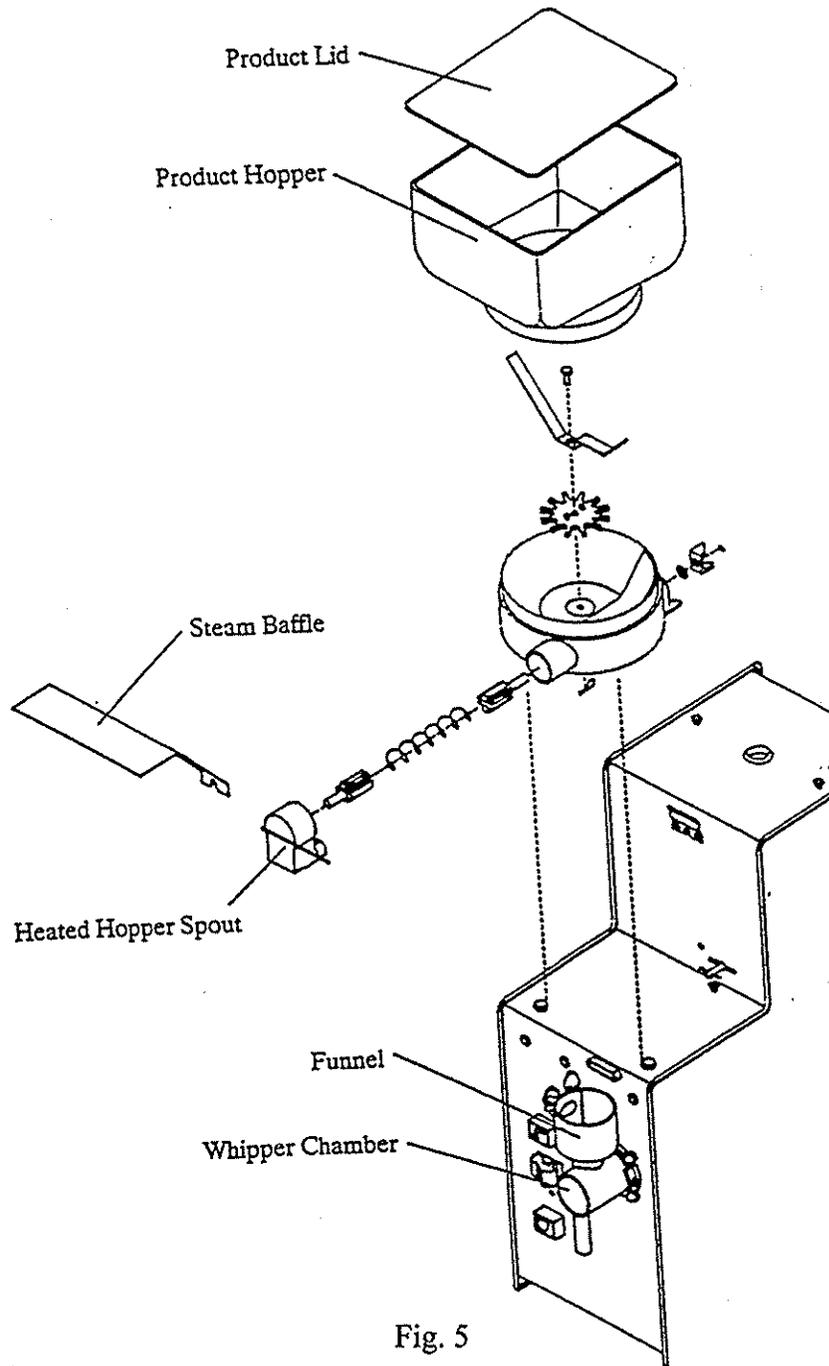

Fig. 5
- a. Remove parts from assembly as shown in Fig. 5. Do not remove the spring wiper from the auger.